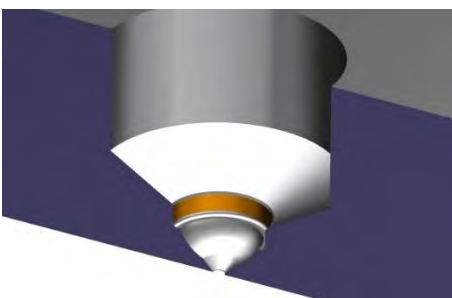

Figure 36: Checking the diameter close to the gate
- 4) Check whether the seal diameter close to the nozzle tip is within the required tolerance. This must always be ØH6 (highlighted in orange in Figure 36), unless specified otherwise. In the case of a nozzle with a melt chamber, a tolerance of ØH7 must be observed.